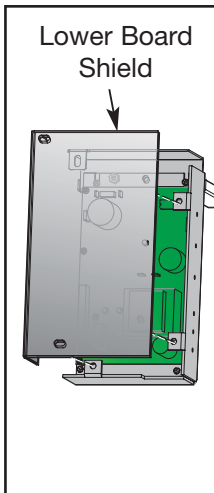

Figure 9
A. Pull out on the lower board shield. See Figure 9.
- E. Place the shield into position and push in (the shield will snap in). See Figure 9.
- A. Pull out on the lower board shield. See Figure 9. **NOTE: It will snap out.**